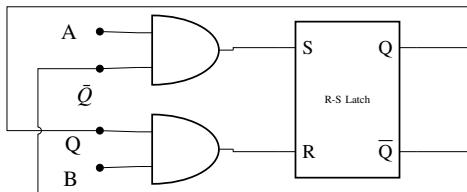

Fig. 5.26
29. The two inputs A and B are connected to to an R-S latch via two AND gates as shown in Fig. 5.26. If $A = 1$ and $B = 0$, the output $Q\bar{Q}$ is _____. (GATE IN 2017)